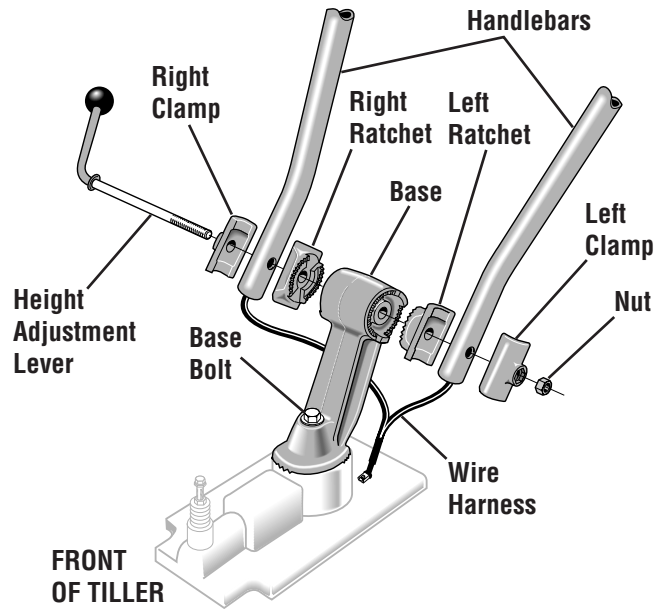

Figure 2-2. Handlebar assembly.
1. Disassemble the handlebar assembly. To do this, remove the height adjustment lever by turning the lever in a counter-clockwise direction (Figure 2-2).
2. Place the handlebar ends on either side of the base, with the wire harness toward the rear of the base (Figure 2-2).
3. Install the height adjustment lever through the right-side clamp, handlebar end, ratchet, and base; then out through the left-side ratchet, handlebar end, and clamp (Figure 2-2). Secure with nut, but don't fully tighten.
1. Loosen the bolt (Figure 2-2) on the